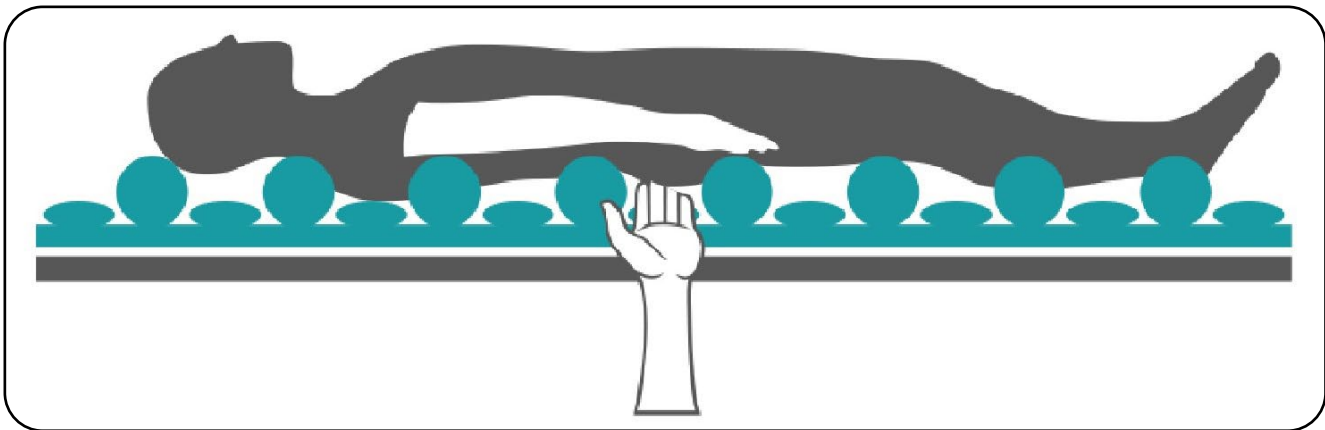

Fig. 8.1.02 – Performing the hand test
While using the product, check the support pressure between the patient and the alternating pressure mattress regularly by applying the hand test (Fig. 8.1.02).
11. Now check the set pressure using the hand test. Slide your flat hand between the buttocks of the patient and the deflated cell of the alternating pressure mattress. For optimum positioning, there must be a distance of approximately 3–4 cm between the buttocks and the deflated cell (Fig. 8.1.02).